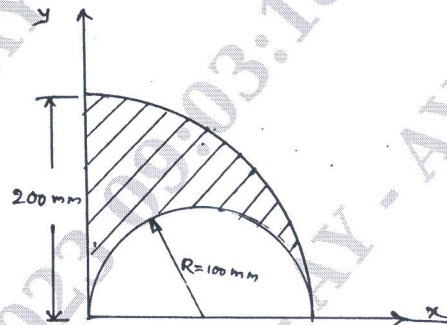

Fig.Q8(b)
- b. Locate the centroid of the lamina shown in Fig.Q8(b).